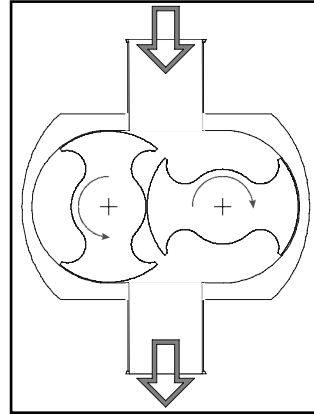

Figure 9.
- Motor is wired for correct direction of rotation - see Figure 9.